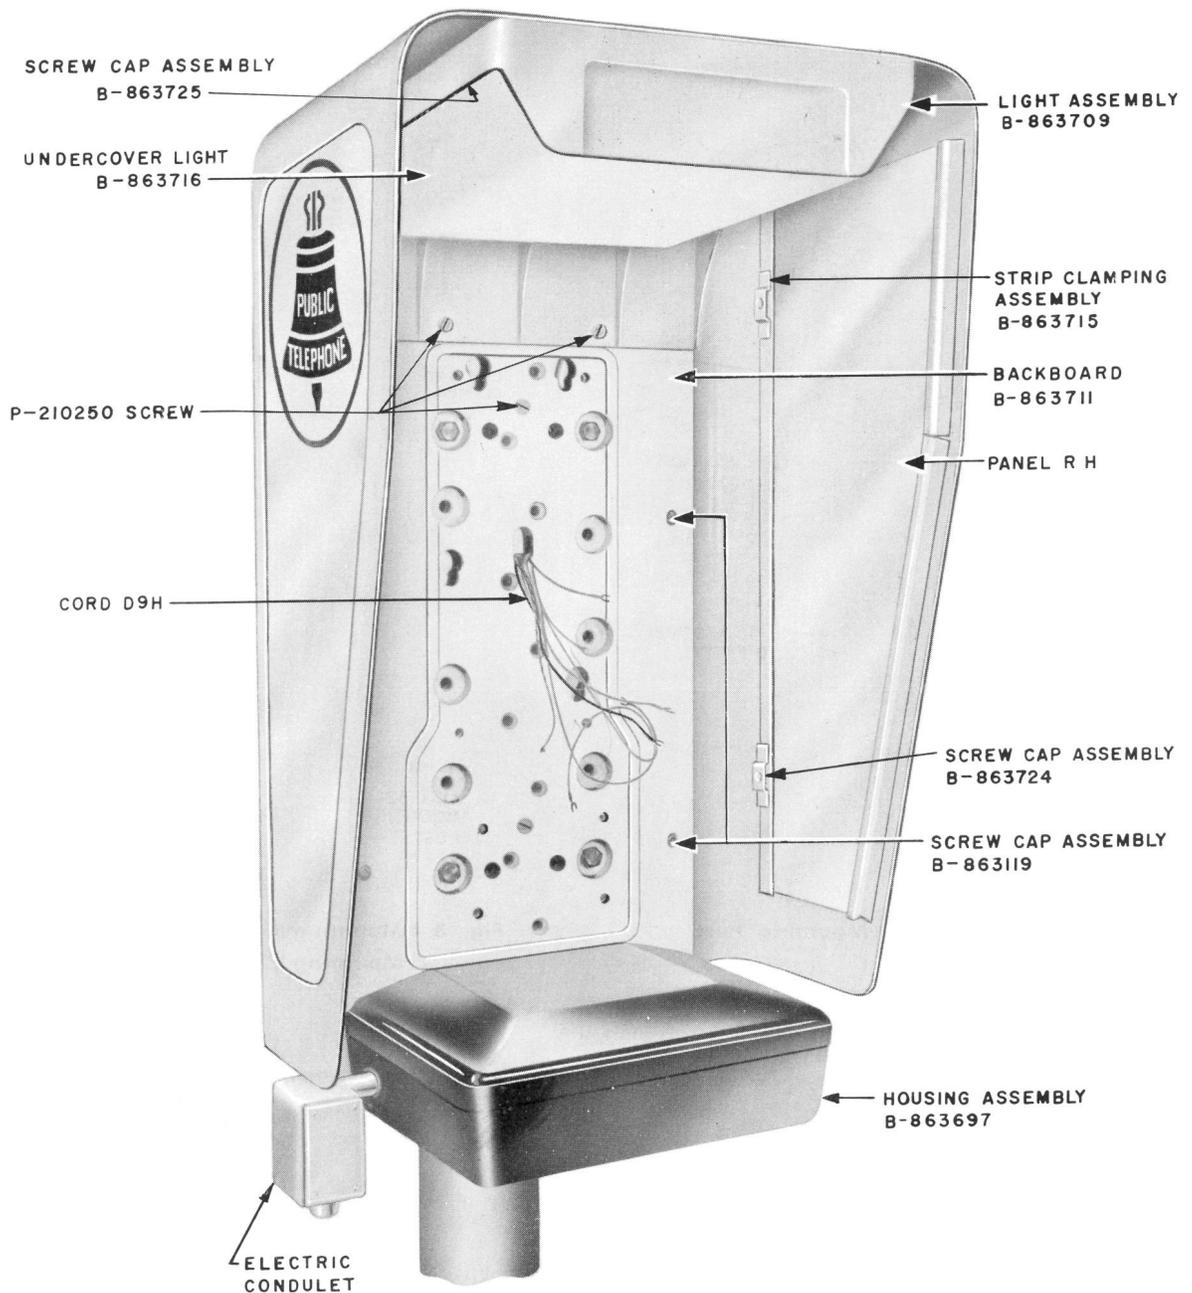

Fig. 5 - Front View
**3.01** Each mounting consists of a weather hood, backboard, subscriber set housing, and a fluorescent light fixture. The backboard serves as a mounting surface for all the major items including the coin collector (Fig. 5). Backboard is designed to accept security studs.